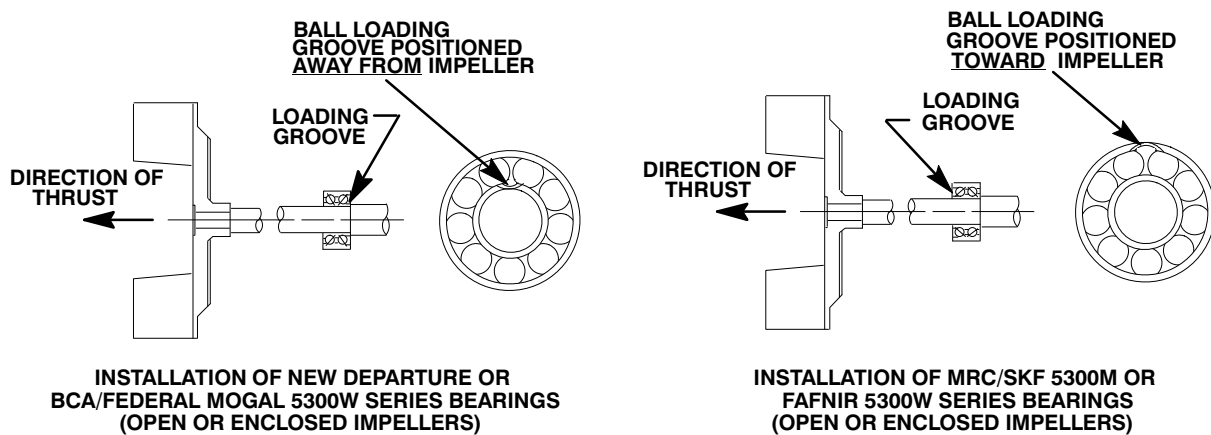

Figure 5. Inboard Bearing Positioning
Position the inboard bearing (49) on the shaft as indicated in Figure 5.